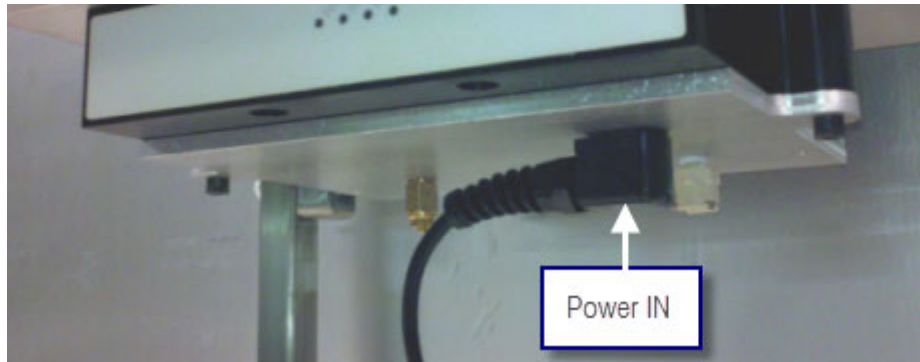

Figure 2-2 Power connection inputs—ReactIR 45P NL
1. Connect the power cord, located below the ReactIR 45P main enclosure (Figure 2-2), to external power.
To stop the ReactIR 45P system, disconnect the external power (Figure 2-2).